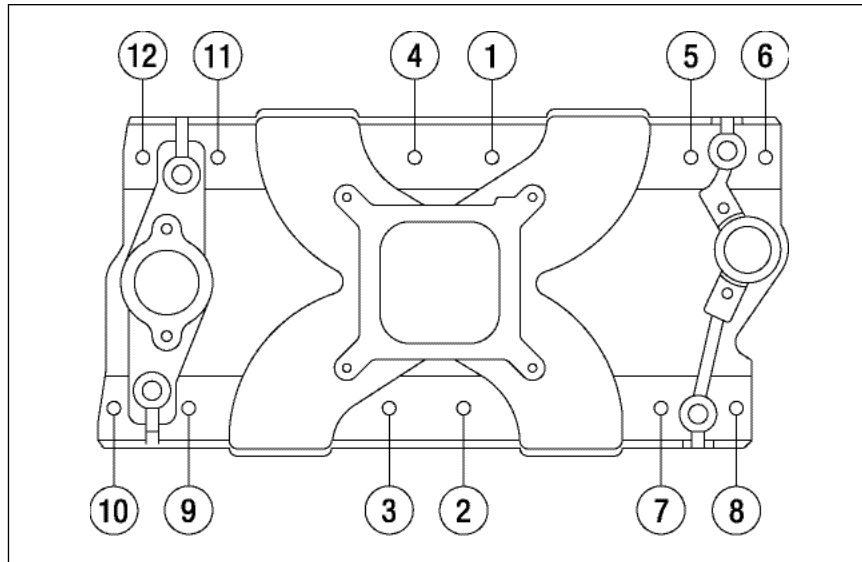

Figure 1 - Manifold Bolt Torque Sequence
4. Install the intake manifold and hold-down bolts. Torque the manifold bolts to 25 ft/lbs in small, even steps, following the factory recommended torque sequence (**See Figure 1**). If you cannot fit a torque wrench on some of the bolts, use a small box end wrench to avoid over tightening.